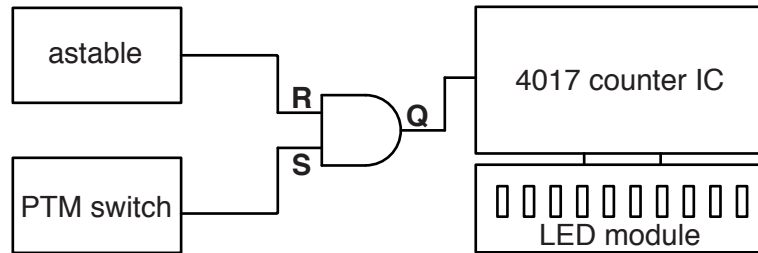

Fig. 13
- 10 (a) A student wishes to make an electronic counter that will generate numbers from 0 to 9. Fig. 13 shows a block diagram of the system that will be used to control the length of time that the counter will 'roll' for before settling on one number. The 4017 counter IC counts from 0 to 9 repeatedly; each output will control one LED. The two inputs are an astable signal and a push to make (PTM) switch. The two inputs are an astable signal and a push to make (PTM) switch.
(v) Name the logic gate used in Fig. 13 and complete the truth table below for the gate.